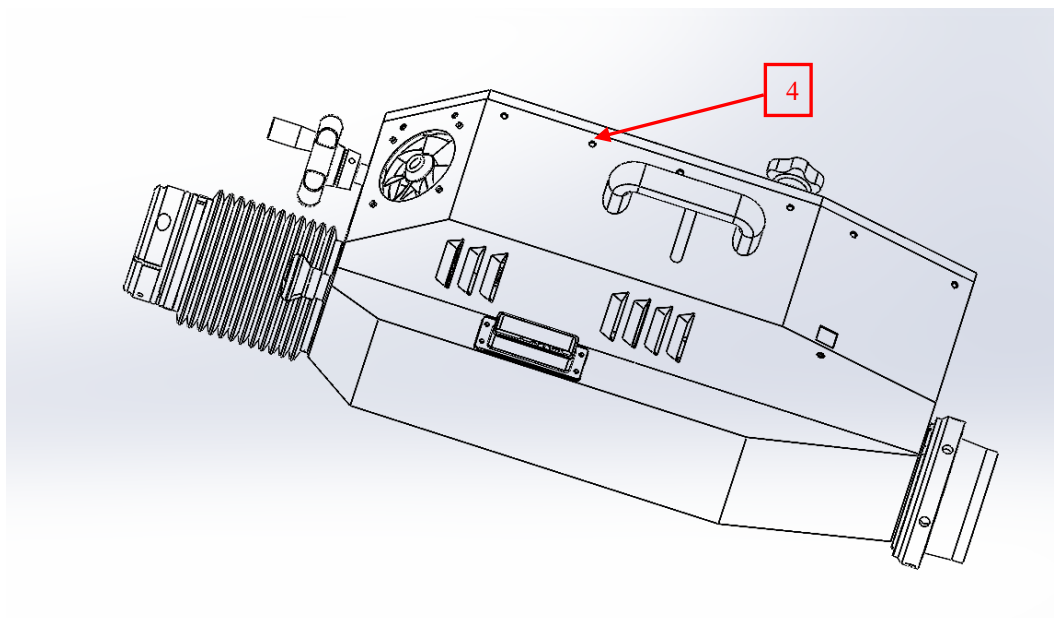

Figure 1.2
- 1.1.6 Unscrew the screws securing the housing at the top, as shown in figure 1.2 – position 4;